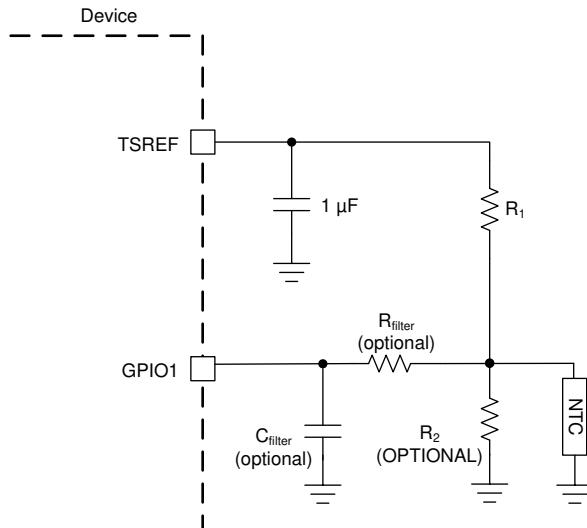

图 8-5. Thermistor Connection
图 8-5 shows the thermistor circuit when GPIO is enabled for thermistor measurements. MCU ensures TSREF is enabled by setting *CONTROL2[TSREF_EN]* = 1 and settled before taking the measurement value.
- *R1* is the pull-up resistor as shown in 图 8-5 with the assumption the *R2* is not used